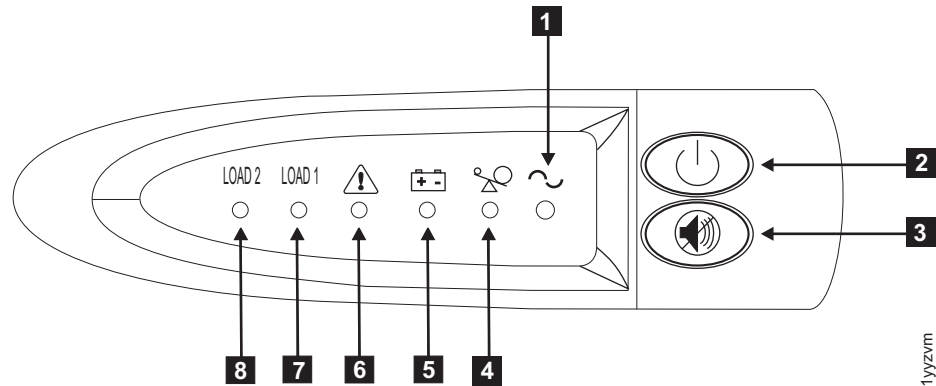

Figure 72. Power switch and indicators of the uninterruptible power supply 5115
- To turn the UPS 5115 on, press and hold the on/off button **2** until you hear the UPS 5115 beep (approximately two seconds). See Figure 72 on page 201. The UPS 5115 undergoes a self-test before the power on indicator **1** and the load indicators (**7** and **8**) light up to indicate that the UPS 5115 is supplying power to the SAN Volume Controller. The UPS 5115 begins charging its battery while in normal mode.